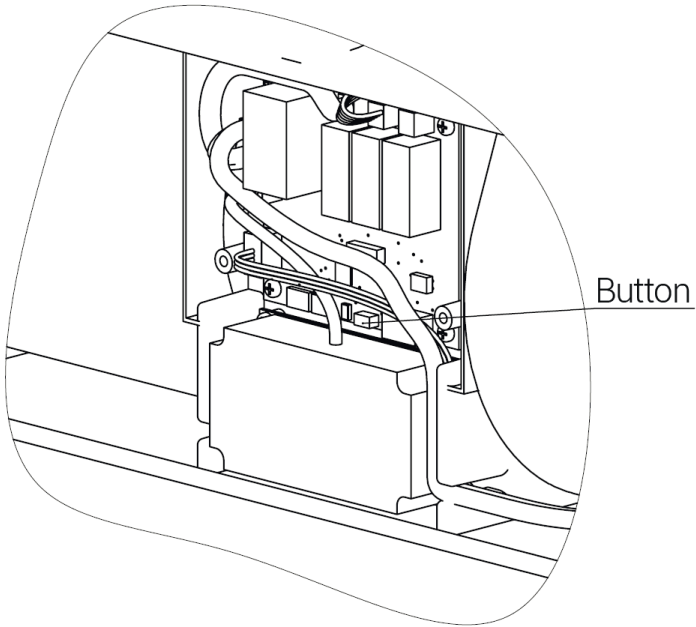

Figure 25. Alarm reset button
14. Press and hold the button shown in Figure 25 for 3 s to reset the alarm message «Exhausted filters»;